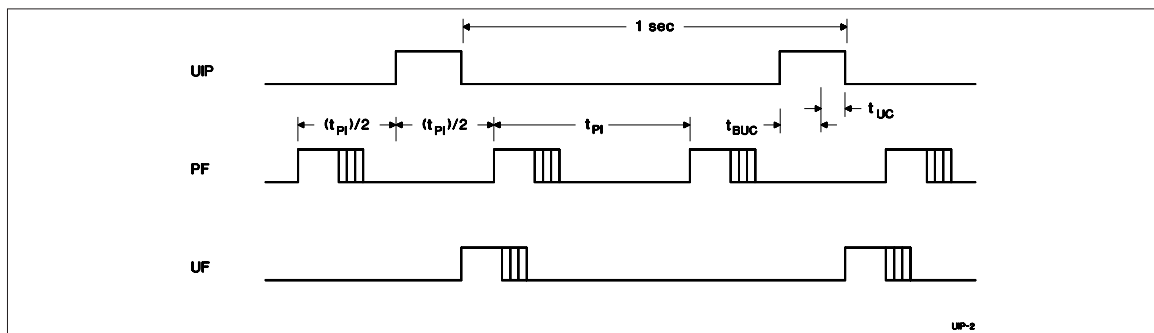

Figure 3. Update-Ended/Periodic Interrupt Relationship
- Enable the update interrupt event to generate interrupt requests at the end of the update cycle. The interrupt handler has a maximum of 999ms to access the clock bytes before the next update cycle begins (see Figure 3).
- Poll the update-in-progress bit (UIP) in register A. If UIP = 0, the polling routine has a minimum of t_{BUC} time to access the clock bytes (see Figure 3).
- Use the periodic interrupt event to generate interrupt requests every t_{PI} time, such that UIP = 1 always occurs between the periodic interrupts. The interrupt handler has a minimum of t_{PI}/2 + t_{BUC} time to access the clock bytes (see Figure 3).